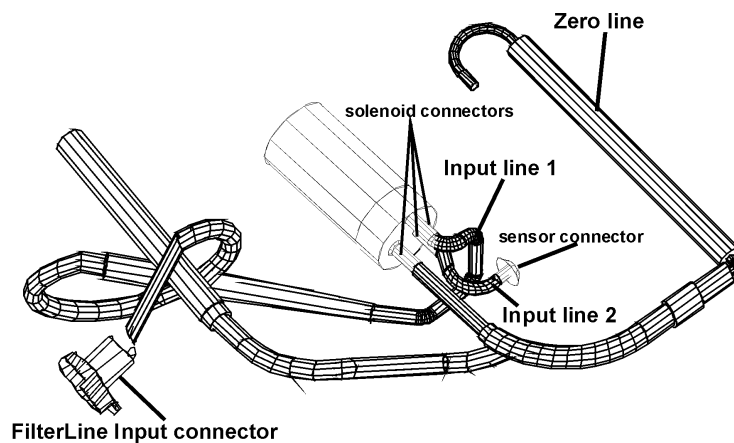
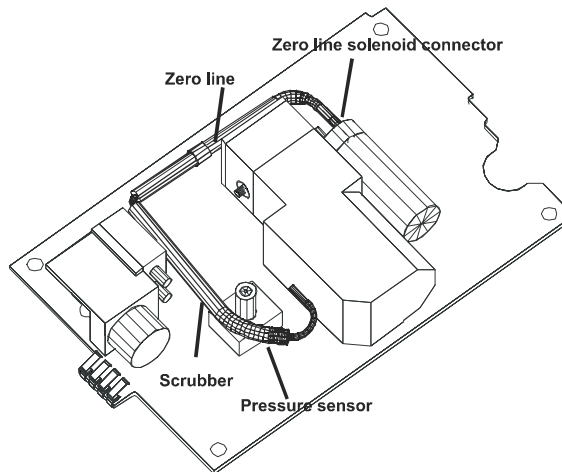

Figure 7-10: Lines to Solenoid (Zero line, Input line 1, Input line 2)
Figure 7-11: Zero line
Refer to Figure 7-10: Lines to Solenoid (Zero line, Input line 1, Input line 2) and Figure 7-11: Zero line
5. Connect the Zero line to the Zero line solenoid connector. Place the scrubber close to the pump under the coiled Main line tubing (not viewed in Figure 7-11: Zero line) around the pressure sensor.